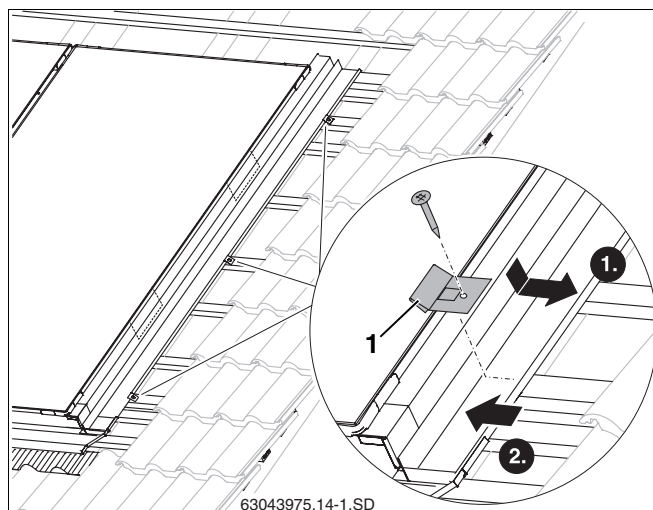

Fig. 50 Securing side facing panel
- ▶ Insert clip (Fig. 50, **Item 1**) into the edge of the side facing panel.